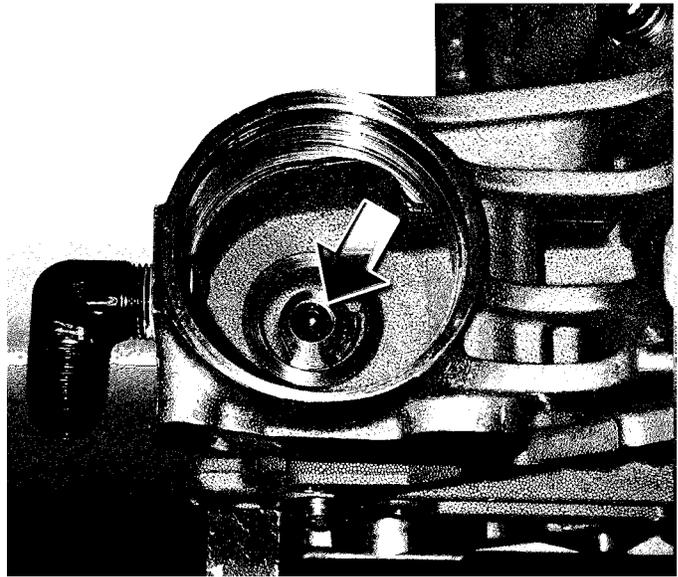

Figure 9
- The factory oil bypass is tapped to 1/4 pipe thread and plugged (Fig. 9).